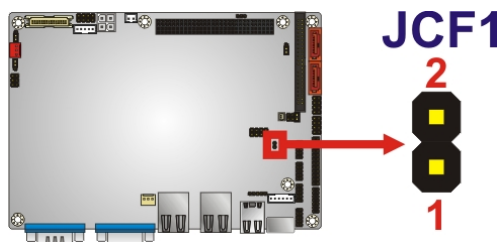

Figure 5-10: CF Card Setup Jumper Location
- Jumper Location:** See **Figure 5-10**
The CF Card Setup jumper location is shown in **Figure 5-10**.